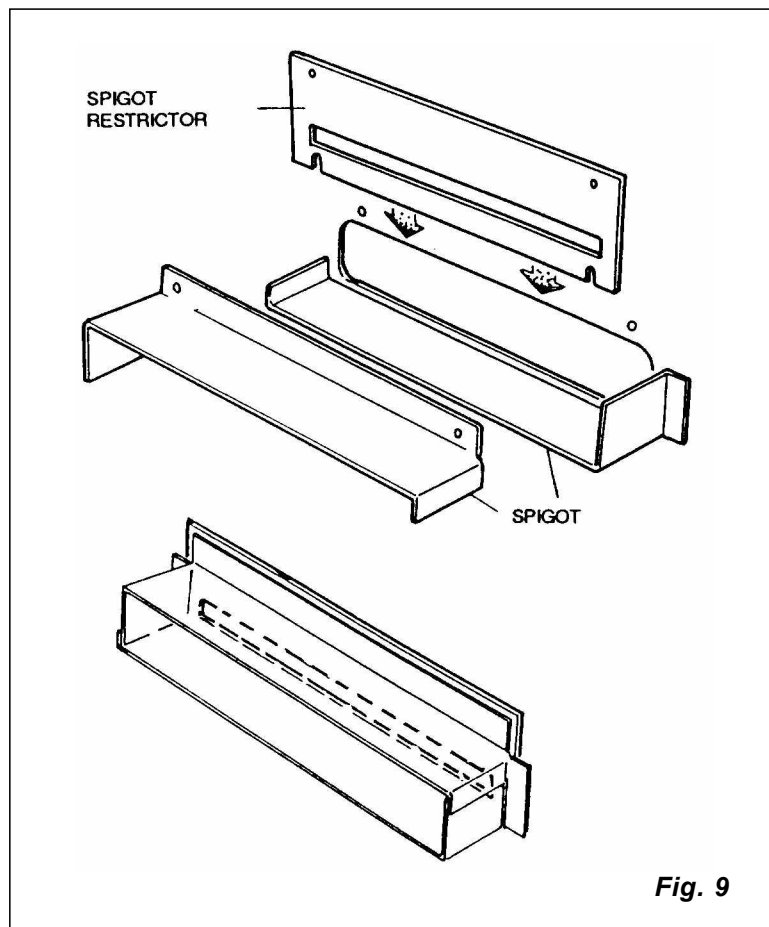

Fig. 9
3.5 FLUE SPIGOT RESTRICTOR (Fig. 9)
- (a) Standard 228mm x 228mm (9in x 9in) Brick Chimney. The flue spigot restrictor must not be used if the chimney height is less than 4.3m (14ft) or if poor draught is suspected. If over 4.3m (14ft) in height with good draught, the flue spigot restrictor (Fig. 9) must be fitted.
3.6 FIT FLUE SPIGOT (Fig. 9) (and Flue Spigot Restrictor if Required)